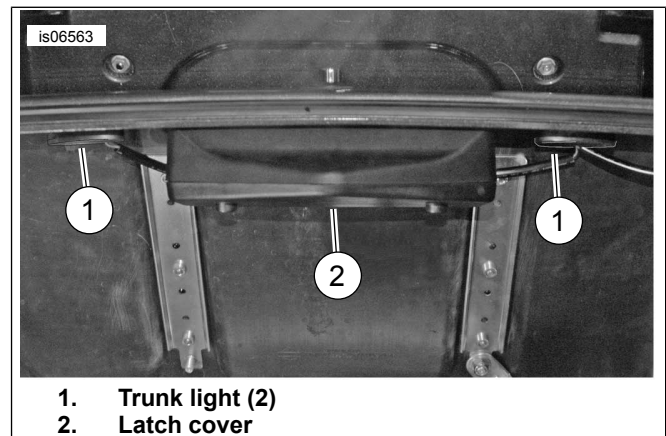

Figure 2. Trunk Light Mounting Locations (2011- Later Shown, 2009-2010 Similar)
5. Test-fit the lights to the inside of the trunk before installation. Do not remove the protective tape until ready to apply the lights. **2011- Later Models:** See Figure 2. Position the lights to the inside of the trunk on either side of the trunk latch assembly. **2009- 2010 Models:** Position the lights to the trunk ceiling.